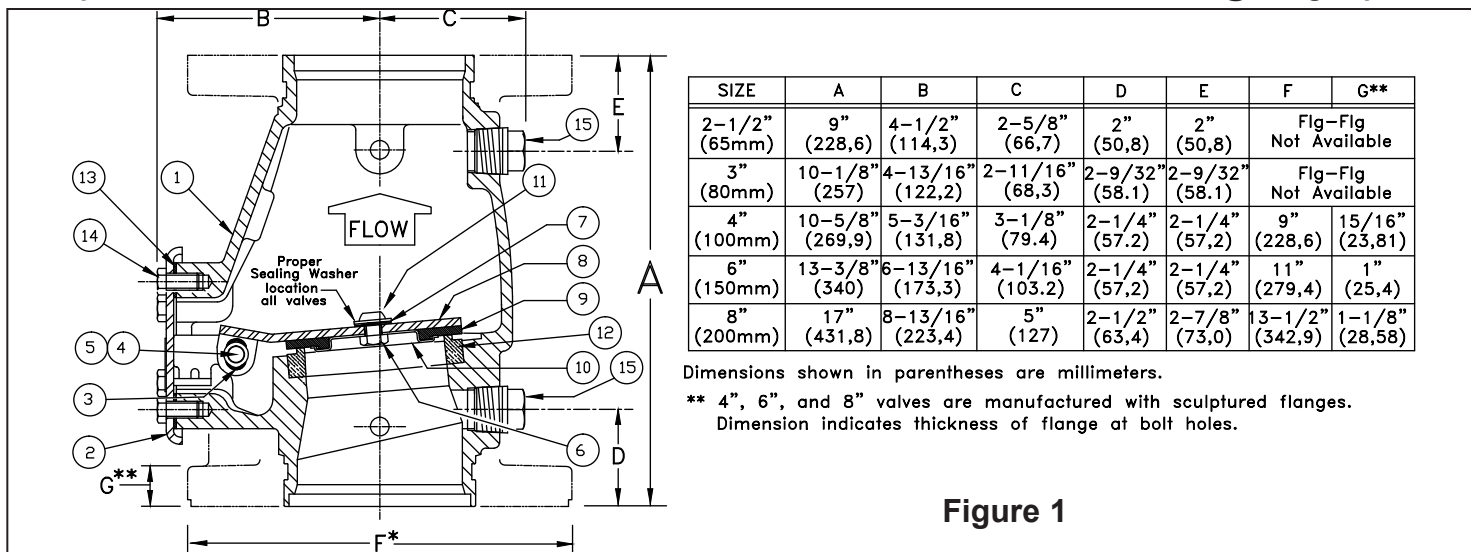

Figure 1
Material Standards: Refer to Figure 1.
5. OPERATION (Refer to Figure 1)
(Refer to Figure 1)
2. To remove clapper rubber (9):
- a. Use the appropriate wrenches to loosen and remove the button-head socket screw (11), hex nut (6), sealing washer (7), and rubber retainer (10).
- b. Remove the clapper rubber (9) for inspection. If the clapper rubber shows signs of wear, such as cracking, cuts, or excessively deep grooves where the rubber contacts the water seat, replace the rubber.
3. To re-install clapper rubber (9):
- a. Place the clapper rubber (9) over the center hub of the rubber retainer (10).
- b. Position the retainer (10) (with rubber in place) against the clapper (8) as shown in Figure 1.
- c. Replace and tighten the button-head socket screw (11), sealing washer (7), and hex nut (6). The sealing washer (7) and hex nut (6) must be located on the top side of the clapper as shown in Figure 1. Do not over-tighten.
4. To remove clapper (8), and/or hinge pin (4):
- a. Remove the hinge pin retaining rings (5) to free the hinge pin (4) for removal. After the hinge pin (4) is removed, the clapper (8) can be removed.
5. To re-install clapper (8), and/or hinge pin (4):
- a. Verify that the clapper rubber (9) is in good condition and that it is properly installed.
- b. Position the clapper (8) with the elongated hinge holes aligned between the holes of the hinge bracket welded inside the cover (2). The system (top) side of the clapper (8) must face the direction indicated by the flow arrow stamped inside the cover (2).
- c. Insert the hinge pin (4) through the holes at one end of the hinge assembly. Continue to push the hinge pin (4) through the holes at the remaining end of the hinge assembly.
- d. Re-install the hinge pin retaining rings (5).
- a. Verify that cover gasket (13) is in position and in good condition.
- b. Slide the cover/clapper assembly (2-11) into the Swing Check Valve so that the clapper rubber (9) contacts the water seat (12).